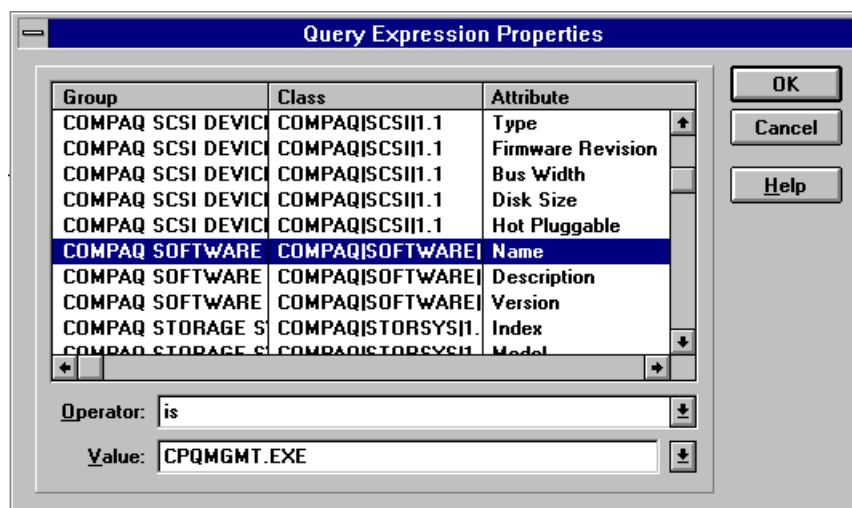

Figure 6-7. Finding the Name attribute
10. Scroll through the list until you find the *Name* attribute. An example of the Query Expression Properties window is shown in Figure 6-7.